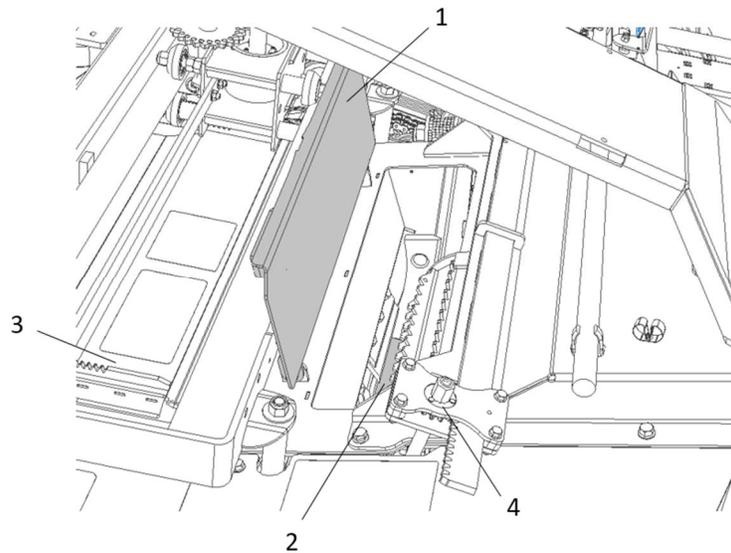

Figure 108 Shear bar replacement
2. Loosen the shear bar clamping rod (item 4 - Figure 108 Shear bar replacement). Loosen the pointer nuts and screws (item 5) completely to clear the path for the shear bar and then unscrew the adjuster bolt (item 6).